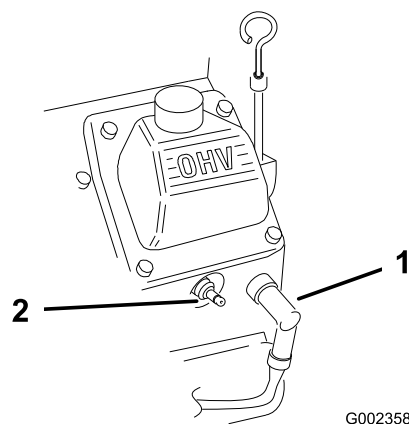

Figure 42
- Disconnect the wires from the spark plugs (Figure 42).